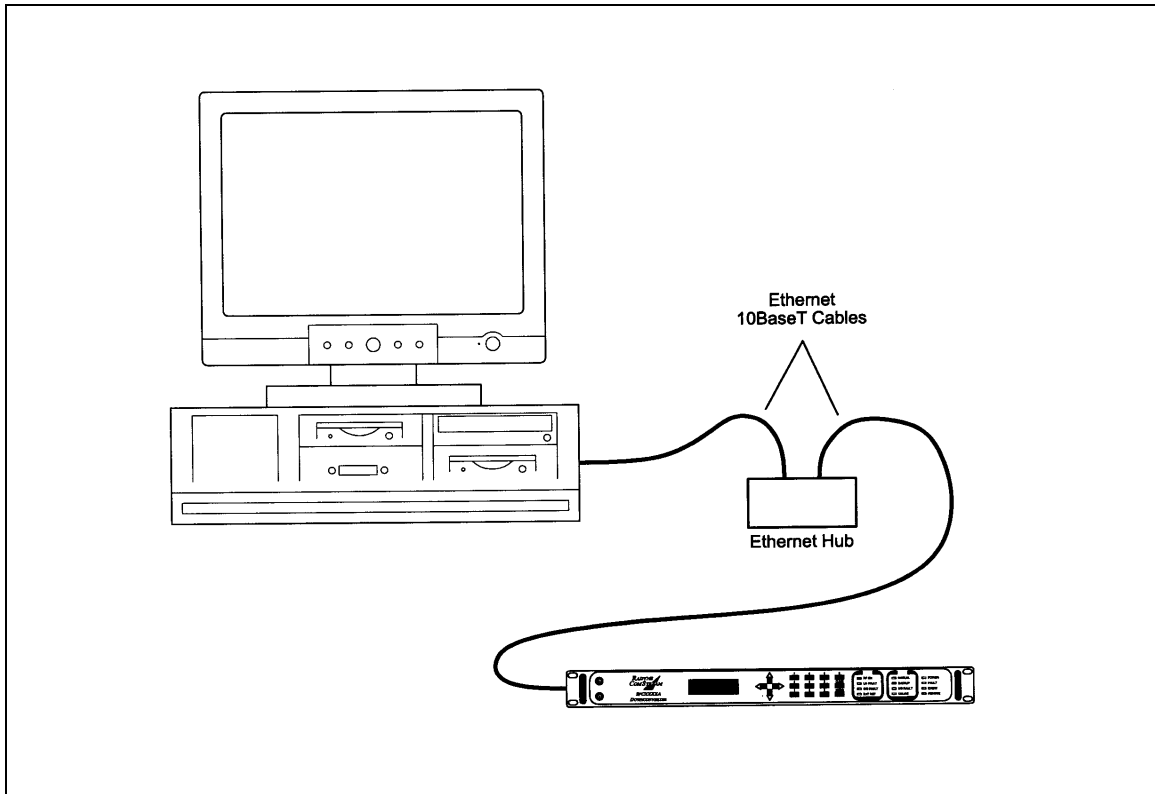

Figure 4-3. Ethernet Connection
1. Connect the computer to the Upconverter Ethernet port (J9) using the RJ-45 to RJ-45 10BaseT Cables via a hub as shown in Figure 4-3.